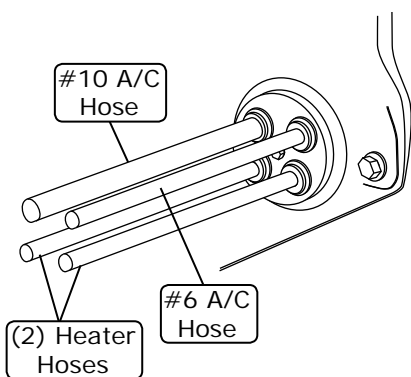

Figure 8
2. Route the A/C and heater hoses through the fresh air cap and the kick panel fresh air cap as shown in Figures 8 & 8b, below.